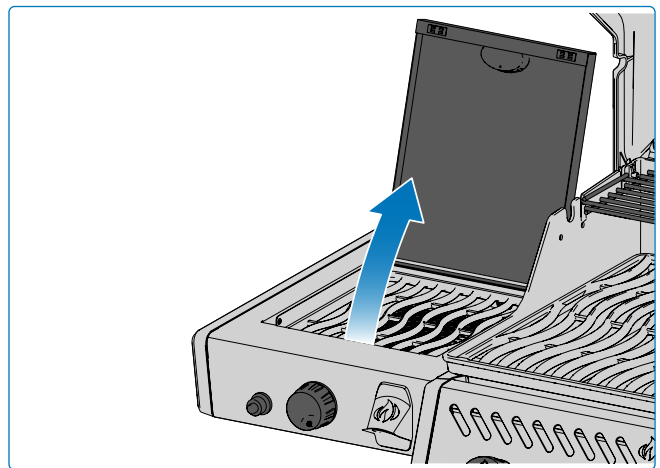

Fig. 10
1. Open burner cover (Fig. 10)